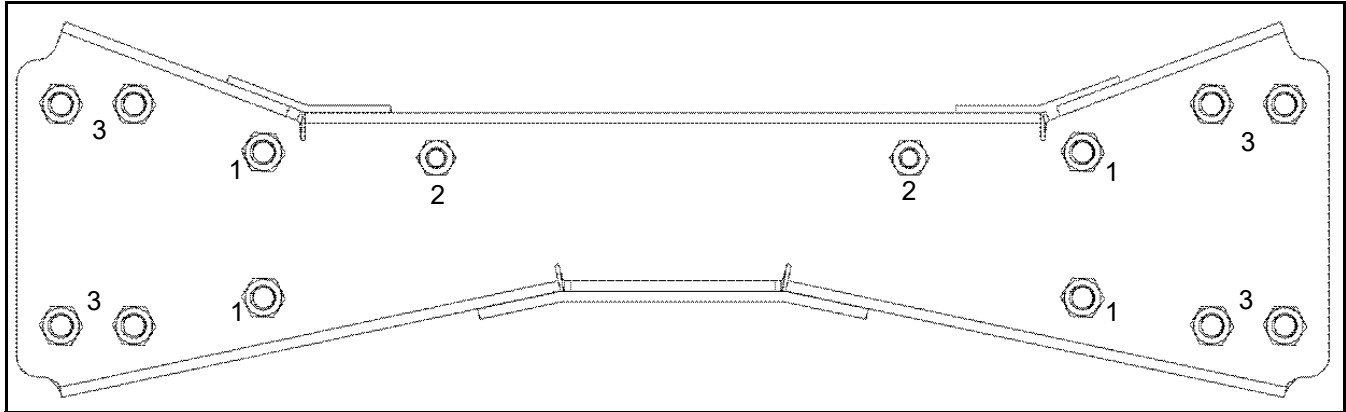

Figure 14. Lower channel mounting hole designation.
28. Orient the lower channel, p/n 12-05-1380, between the curbside and roadside bogie legs and the two (2) holes identified as Item 1 / Figure 14 on the sway bar brackets. Using four (4) washers, p/n 19-02-0431, and four (4) capscrews, p/n 19-01-2341, secure in position hand-tight.
Item	Figure 14 Description